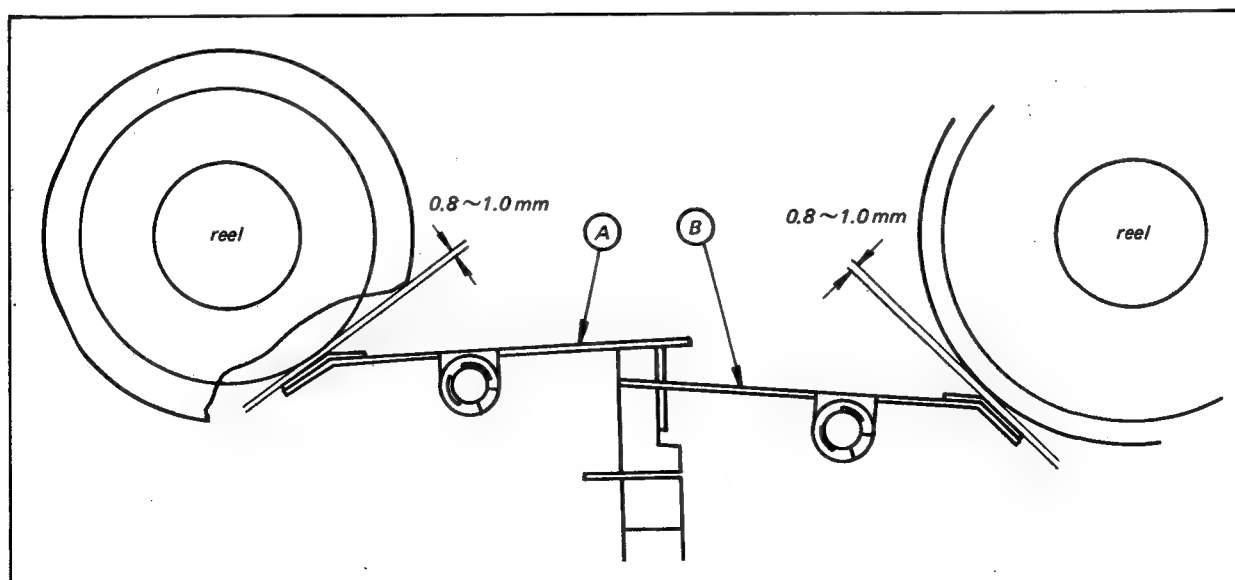

Fig. 7-16 Brake adjustment
3. Check for 0.9 ± 0.1 mm clearance between the reel table and brake shoe. Bend (A) or (B) portion for correct clearance. See Fig. 7-16.